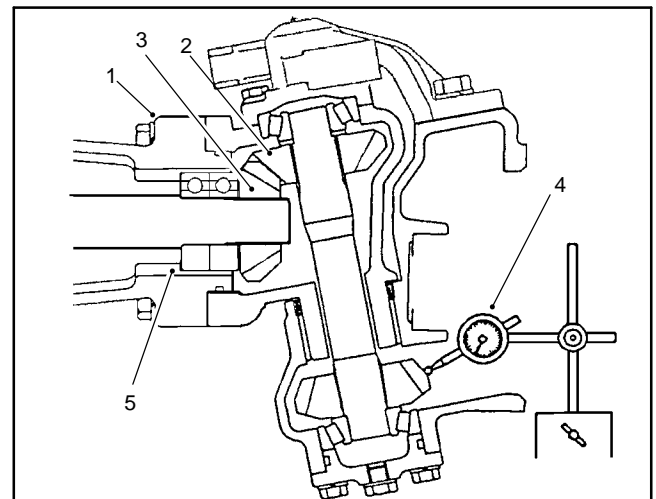

Figure 25
7. Temporarily install the bevel gear case/axle case assembly on the axle support. Position a dial indicator at the tooth's center. Prevent the axle from turning and measure the upper bevel gear to differential shaft gear backlash (Fig. 25).